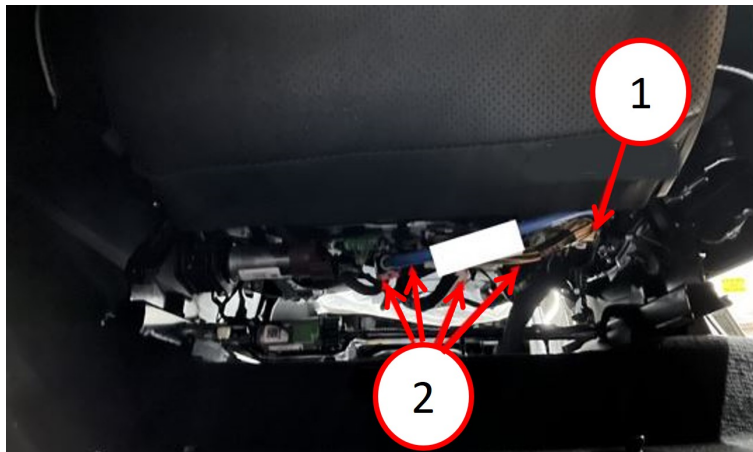
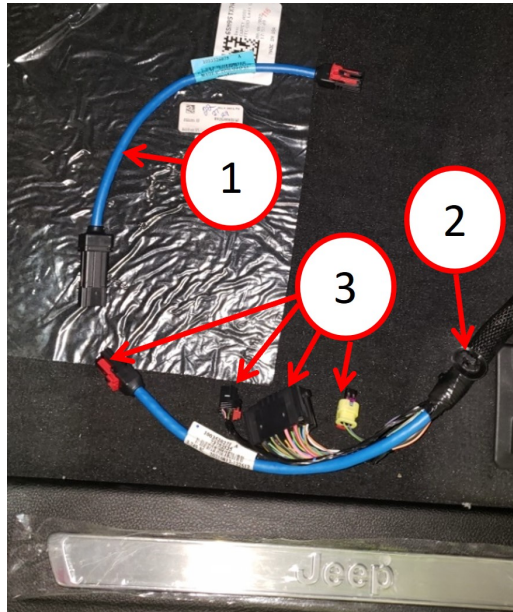

Fig. 1
Fig. 2
3. Disconnect all four VRM wiring harness screen cables from under the driver or passenger front seat (Fig. 1) and (Fig. 2) .
7. Connect the remaining three VRM wiring harness screen cables to under the driver, or passenger front seat (Fig. 2) .